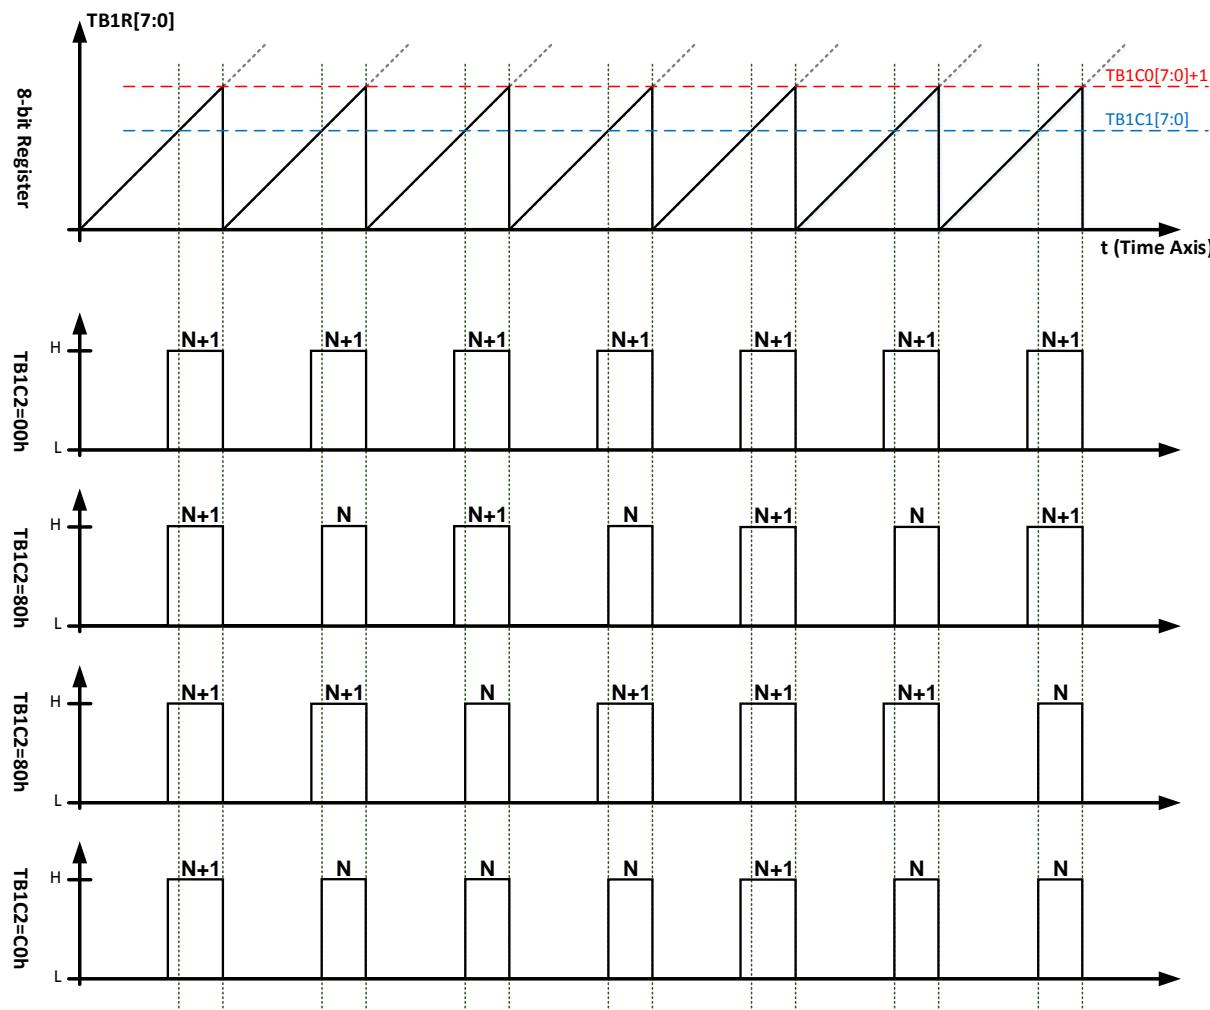

Figure 18-10 PWM5O output waveform table
- ◆ Table 18-2, Figure 18-10 and Figure 18-10 partly list the 8+8-bit PWM waveform changes of TB1C2[7:0] under different settings for users' reference.